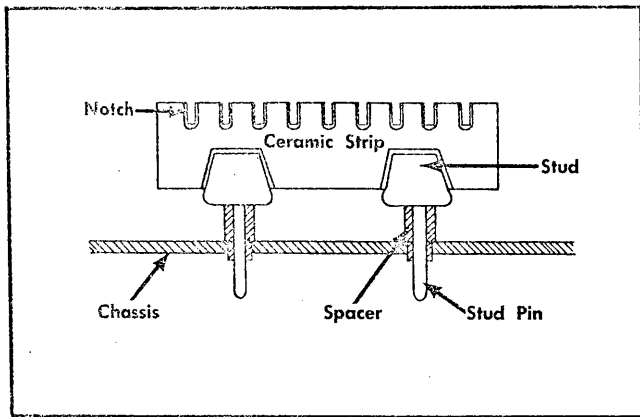

Fig. 4-12. Typical ceramic strip assembly.
**Ceramic Strip Replacement.** Unsolder all connections then use a  $\frac{3}{8}$  inch diameter by 3 inch long plastic or hardwood dowel and a small (2 to 4 oz.) mallet to knock the stud pins (Fig. 4-12) out of the chassis. Place one end of the dowel on the end of the stud pin protruding through the chassis. Rap the dowel smartly with the mallet. When both studs of the strip have been loosened in this fashion, the strip is removed as a unit. The spacers will probably come out with the studs. If not, they can be pulled out separately. An alternative method to remove the terminal strip is to use diagonal cutters to clip off the studs. The ceramic strip is removed and the studs pulled from the chassis with a pair of pliers.